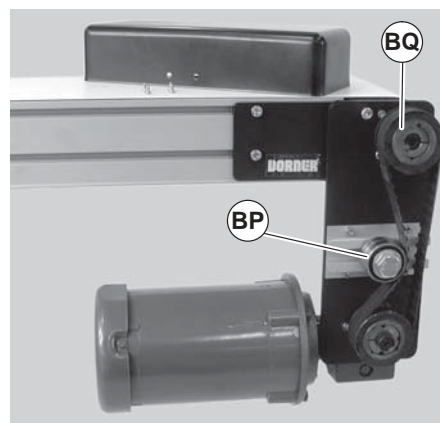
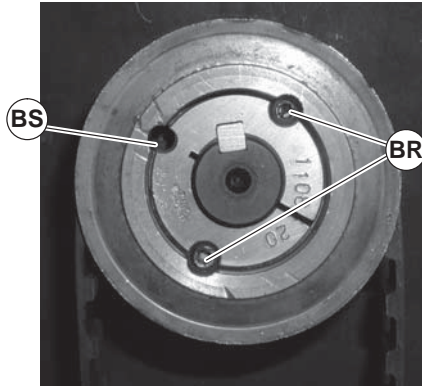

Figure 52
Figure 53
- c. Loosen tensioner (Figure 52, item BP).
- d. Remove taper-lock screws (Figure 53, item BR) on the driven pulley (Figure 52, item BQ). Insert one (1) of taper lock screws (Figure 53, item BR) in remaining hole (BS). Tighten screw (BR) until pulley is loose. Remove pulley, taper hub assembly and timing belt.